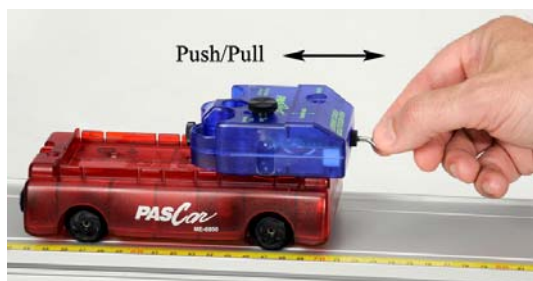

Figure 2: "Shaking" the Cart.
3. Next you will "shake" the cart back and forth. The Motion Sensor will measure the resulting acceleration of the cart, but you also want to record the force you apply. To make the cart oscillate, push and pull only on the Force Sensor hook, as shown in Figure 2.